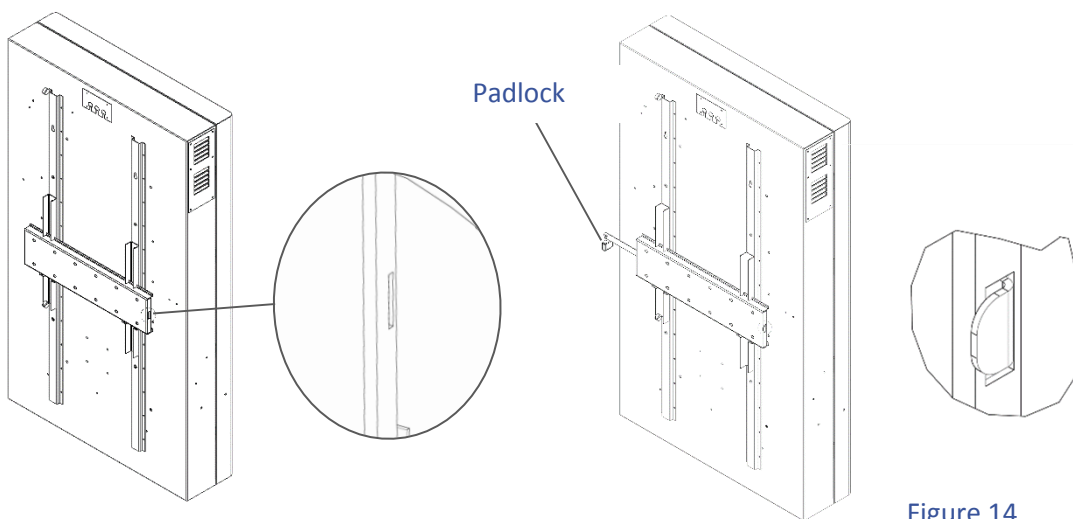

Figure 14
STEP 26: To fully secure the unit to the wall and prevent issues of theft, take the locking bar and feed it through the slots on the mounting brackets and plate (Figure14)